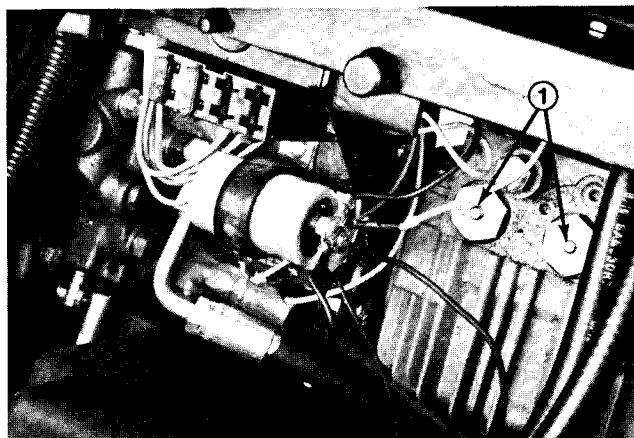

Figure 9
In some situations it is necessary to bypass hydraulic oil within the transmission so that the mower can be moved (pushed) short distances WITHOUT running the engine. To bypass hydraulic oil within the transmission the bypass buttons (Fig. 9) are pushed in and held in that position. These by-pass valve buttons should have a liberal coating of No. 2 grease applied over them after each 500 hours of machine operation, or yearly, to prevent the buttons from sticking. Should these buttons stick in the down (bypass) position and unit operation is continued, the hydraulic system may overheat and possibly result in severe damage to internal transmission components.
2. Clean any dirt or grass clippings off of the bypass buttons (Fig. 9).
10. Inspect the by-pass valves (Fig. 9). If open, close the valves by pulling the buttons up; the buttons should move up by hydraulic pressure when the engine is started. If the valves are defective, repair or replace the valves.